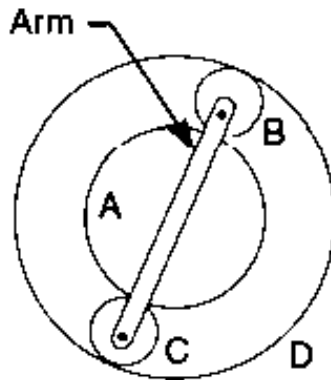

Fig.3
**V b.** Explain self-locking and self-energizing brakes with the help of equations. (06)
- VI a.** A cam is rotating at 600 rpm operate a reciprocating roller follower the stroke of (10) follower is 5cm. Ascent takes place by SHM and descent by UARM. Ascent takes place by  $120^\circ$  and descent during  $90^\circ$  of cam rotation. Dwell between ascent and descent 50 degree. Determine the maximum velocity and maximum acceleration. Plot the displacement, velocity and acceleration diagram also marks salient features.
- VI b.** An epi-cyclic train of gears is arranged as shown in Fig. 3. The number of teeth on (10) the gears A and D are 40 and 90 respectively. Determine number of revolutions of the arm: 1. If, A makes one revolution clockwise and D makes half a revolution anticlockwise. 2. If, A makes one revolution clockwise and D is stationary.